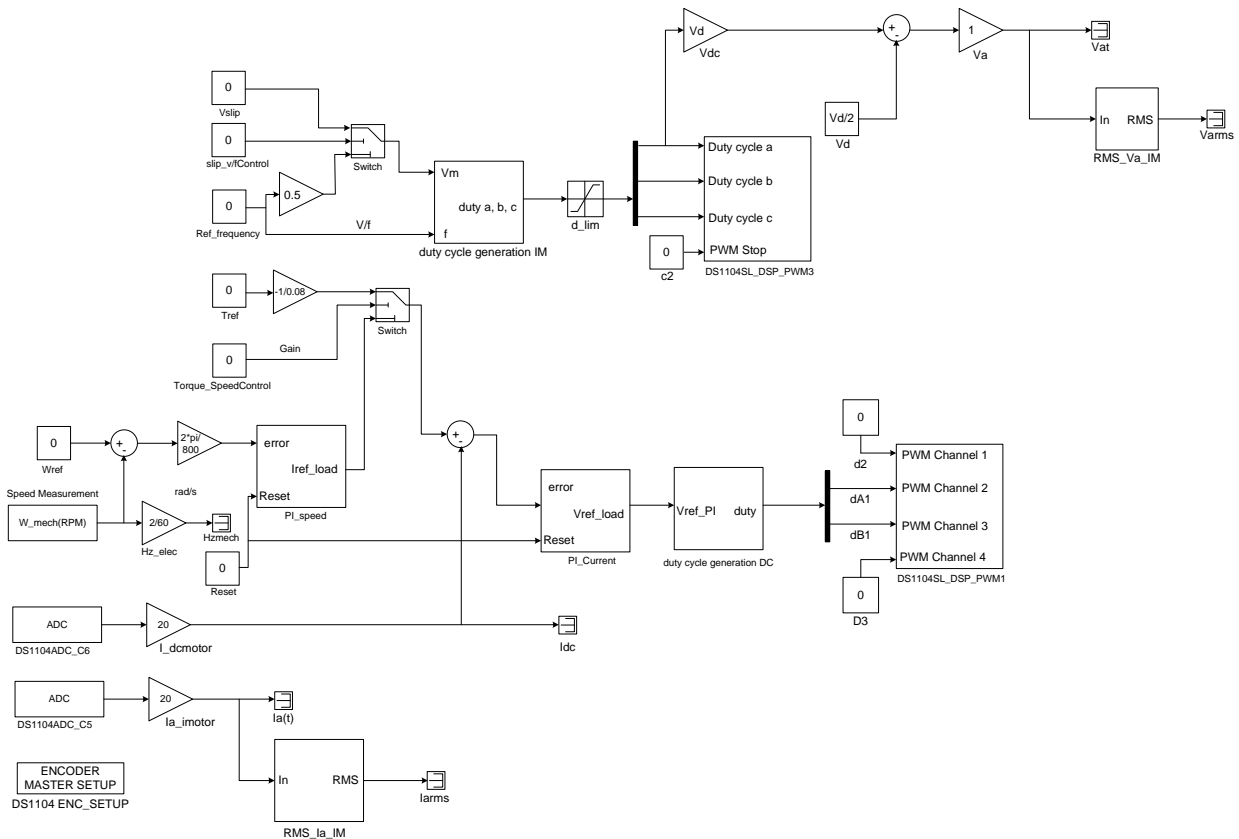

Figure: 8.2 Simulation Model ParameterDetermination.mdl
- Open the file **ParameterDetermination.mdl** and build (Ctrl+B) this file as in Fig 8.2.
The simulink model is in Fig 8.2. The experiment can be configured to operate the motors in the modes given below: